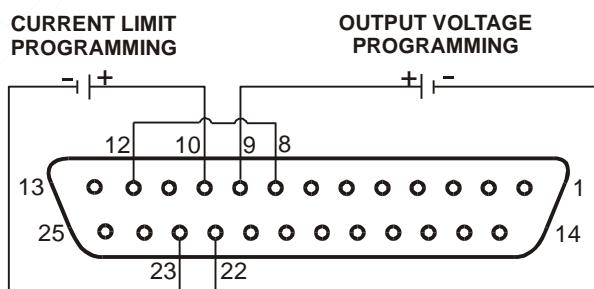

Figure 6-1: Remote Voltage Programming Connection
6. Connect the programming source to the mating plug of J1 as shown in Figure 6-1. Observe correct polarity for the voltage source.